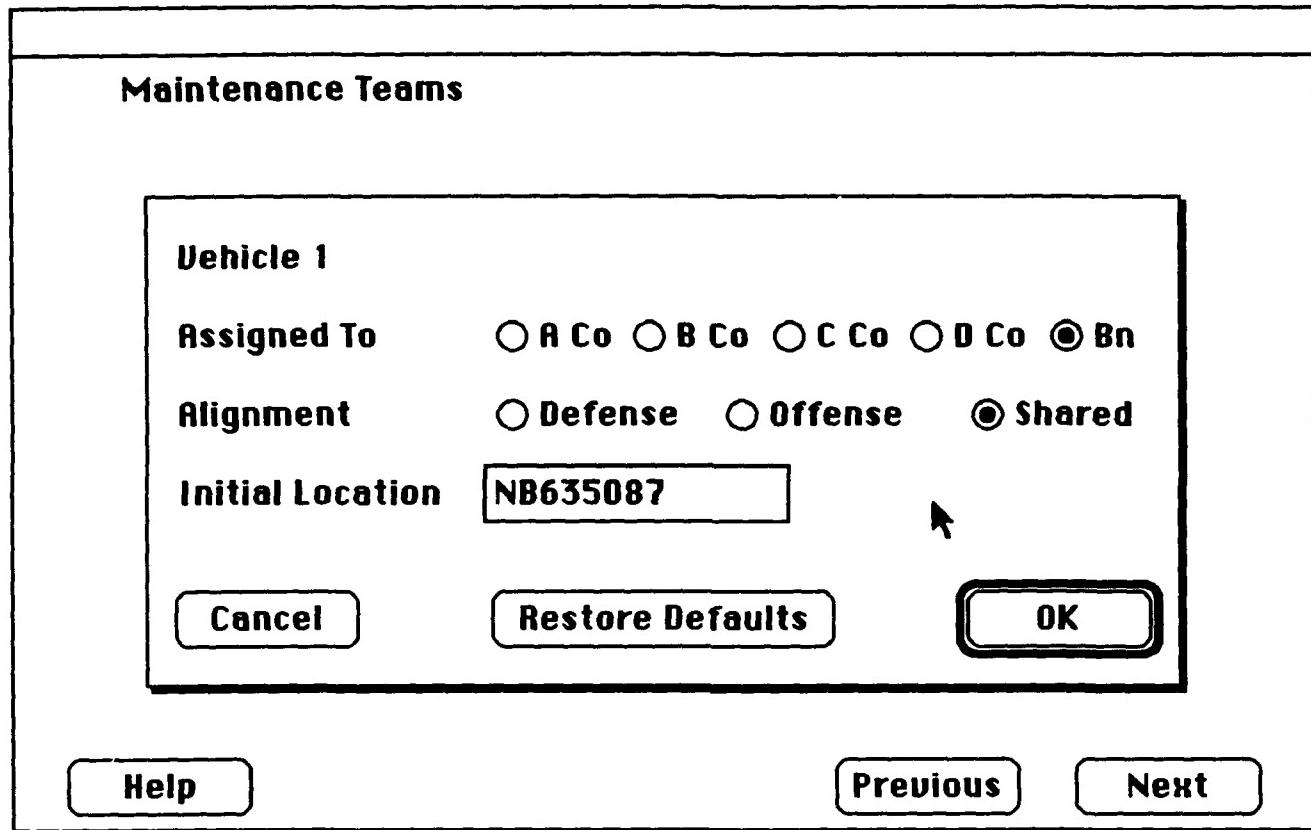

Figure 5.8-17 Maintenance Teams details
Step 1: To set parameters individually for each vehicle, click anywhere on the selected vehicle line. This will cause a new window to appear on top of the one currently shown. An example is shown in Figure 5.8-17.